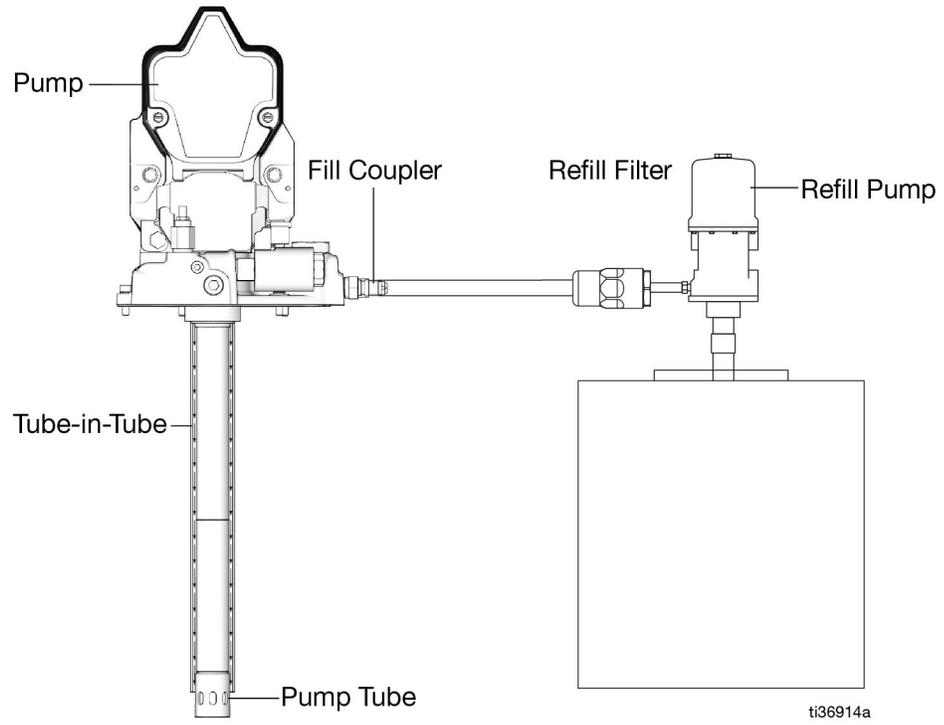
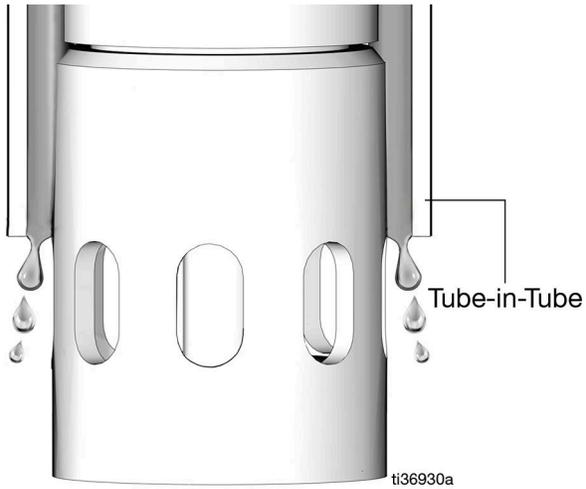

FIG. 3
FIG. 4
2. Run the refill pump until grease comes out of the bottom of the tube-in-tube (FIG. 3 and FIG. 4).